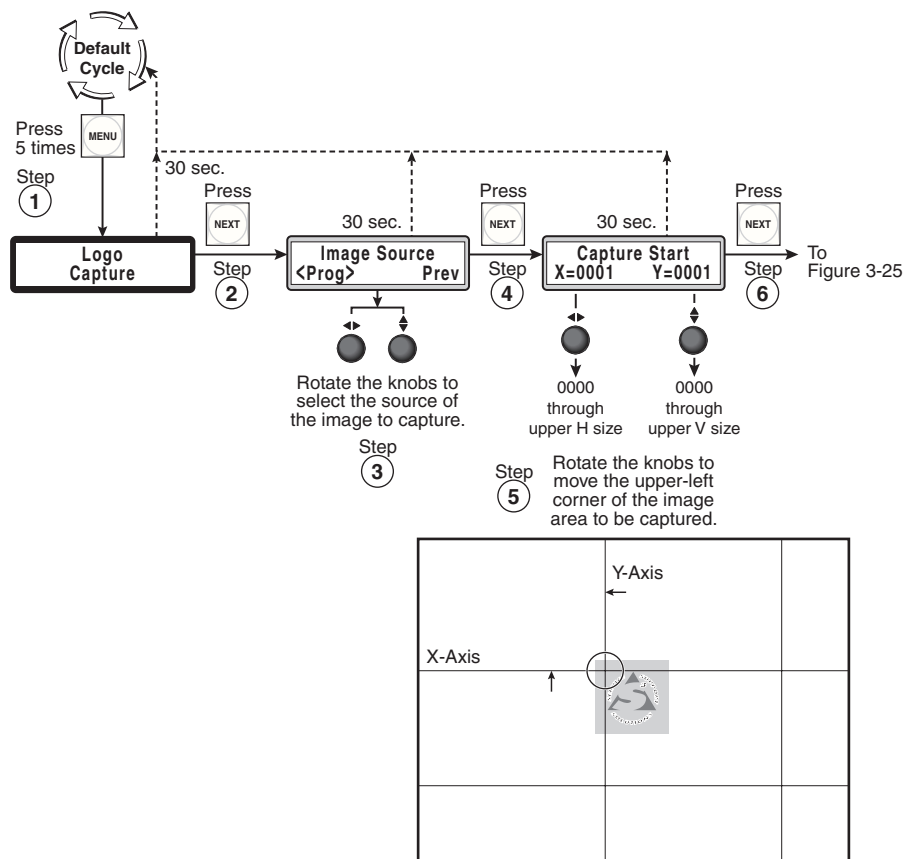

Figure 3-24 — Capturing a logo
1. Press the Menu button until the LCD displays the Logo Capture Menu (figure 3-24).